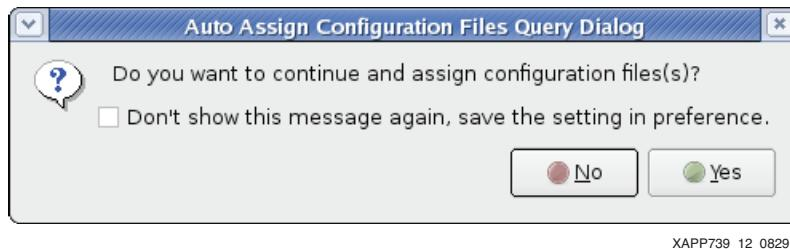

Figure 12: Auto Assign Configuration Files Query Dialog
18. Click **Yes** to auto assign configuration files (Figure 12).